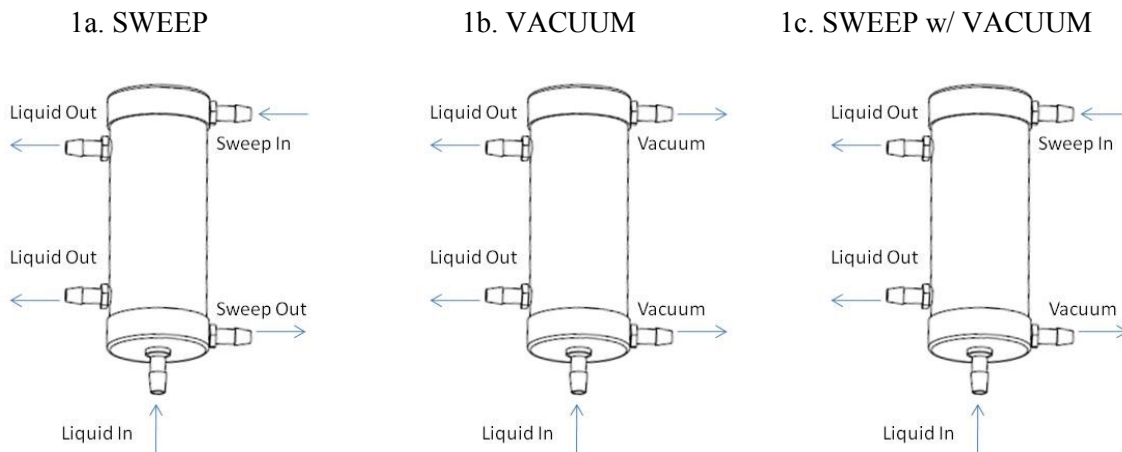
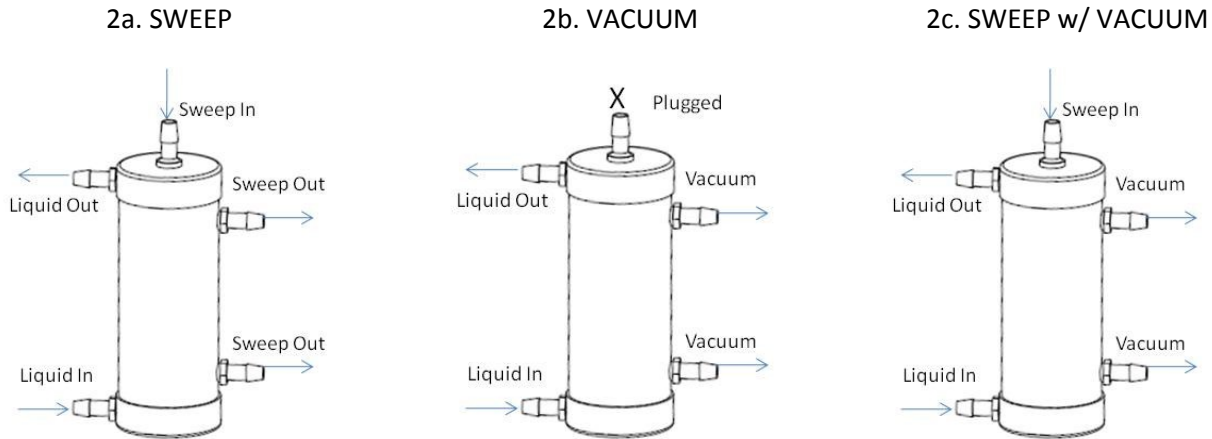

Figure 1. Liquid Contacting Operating Modes – Liquid in the shell side
Figure 2. Liquid Contacting Operating Modes – Liquid in the Lumens
Figure 1 above illustrates the module installation / operation when liquid is flowing on the shell side. Figure 2 below illustrates proper installation / operation with liquid flowing in the lumens. Table 1 below provides a fluid pressure guide for vacuum degassing applications.
1. Connect all the lines to the module according to the chosen mode of operation as shown in Figures 1 and 2.